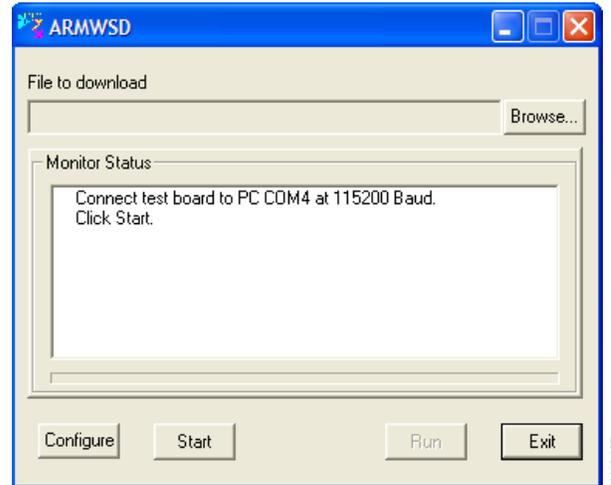
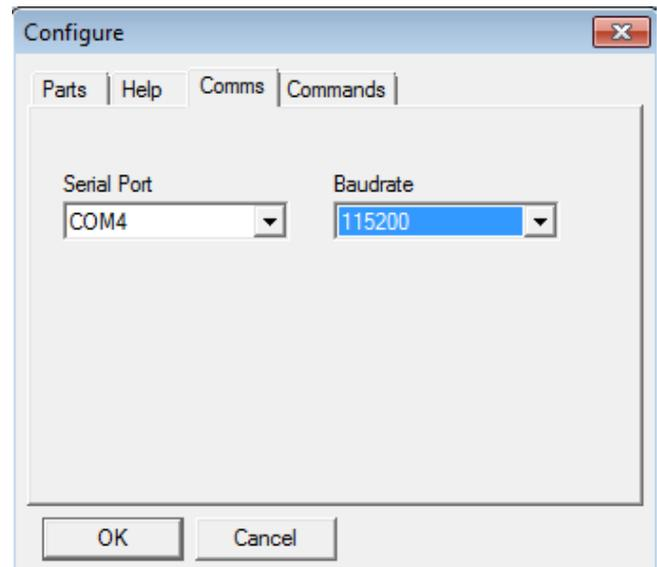

Figure 7. ISEB ARMWSD Firmware Downloader
Figure 8. Selecting the Correct COM Port for the Downloader
2. Run the **ARMWSD.exe** program (it can be downloaded from the ftp://ftp.analog.com/pub/iMEMS_Sensor_Eval/ in the folder of EVAL-ADXL345-M); it displays information about the downloader, as shown in Figure 7.
4. Click **Configure** to display the box shown in Figure 8.
The downloader file should be configured for the **ADuC7026** microcontroller on the ISEB. This can be selected in the **Parts** tab. The other option you may need to change is the COM port. You can select the correct port from the **Serial Port** menu on the **Comms** tab (see Figure 8). If you cannot download the .hex file correctly, please try to make the **Baudrate** lower and retry. “Program” and “Verify” and suggested to check at the same time in **Commands** tab.
When the COM port is selected, click **OK** to accept the changes and go back to the ARMWSD box (shown in Figure 7).
1. Click **Start** in the ARMWSD box (see Figure 7) to initiate the flashing process. After clicking **Start**, click the two buttons (shown in Figure 9) on the ISEB in the following order to flash the firmware:
2. If the downloading process fails, which is indicated in the **Monitor Status** box (see Figure 7), attempt the download again by clicking **Start** and then pressing the appropriate switch combination. It may take a few attempts to reprogram the board successfully. You can also try to lower the download Baudrate as shown in Figure 8 to increase the success rate.
3. After the download has completed successfully, click **Run** (as shown in Figure 7) to reset the ISEB and to begin running the new firmware. When this step is complete, the board is updated correctly.